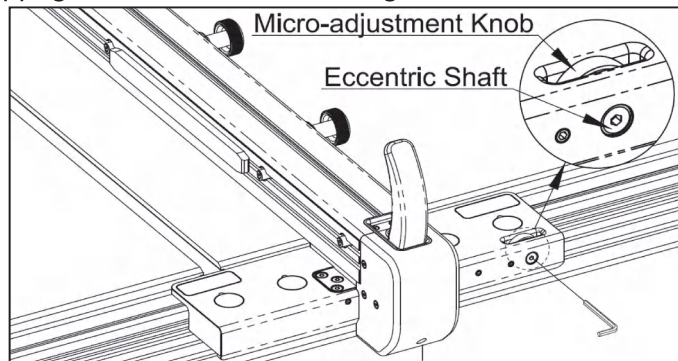

Fig. 6-25
7. Fine-Tuning the Micro-adjustment Knob: Using a 4mm hex wrench, gently turn the eccentric shaft left and right until you can smoothly operate the micro-adjustment knob by hand and move the fence assembly without any slippage, as demonstrated in Fig. 6-25.